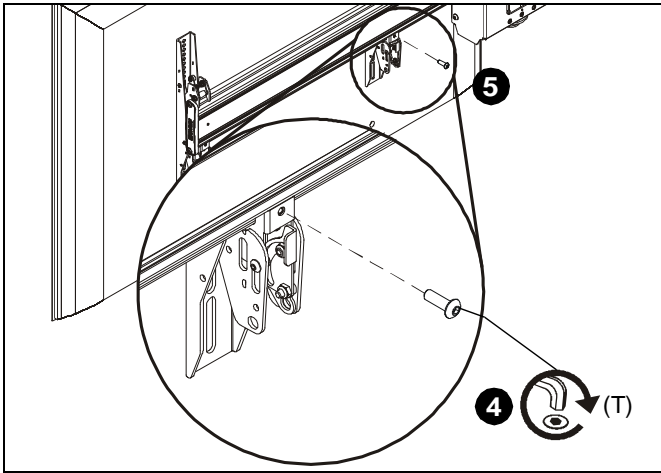

Figure 9
4. Fasten bracket against ceiling mount extrusion using one 10-24 x 5/8" button head cap screw (T). (See Figure 9)